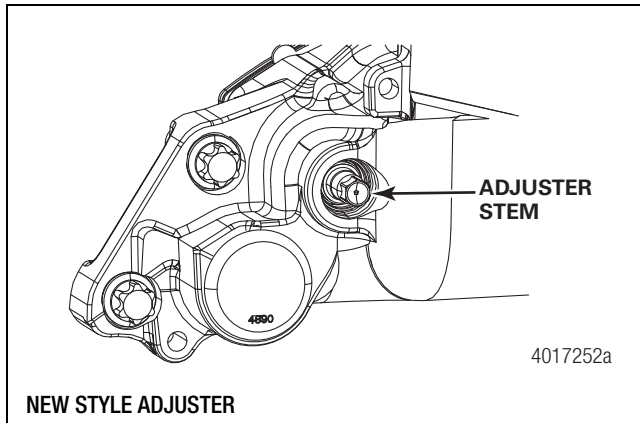
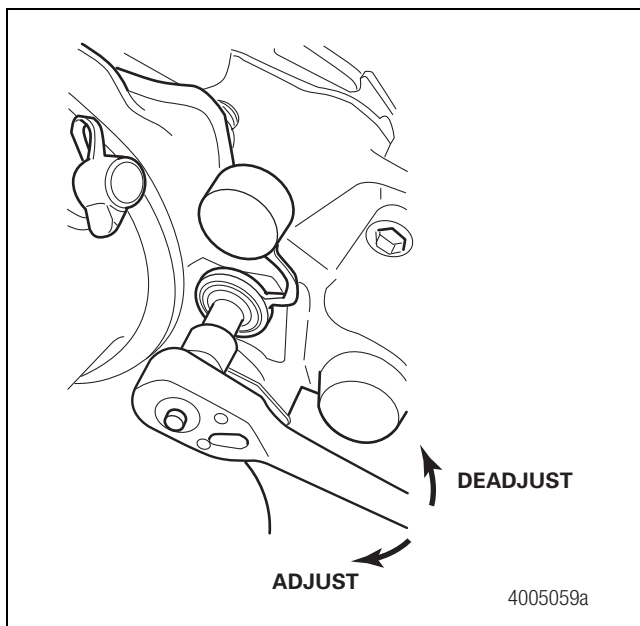

Figure 5.4
Figure 5.5
2. Use a 10 mm wrench to deadadjust the brake. Rotate the adjuster stem COUNTERCLOCKWISE until you feel the adjuster stem stop. Deadadjustment requires more force than adjustment. Do not exceed 30 lb-ft (40 N•m) in either direction. Figure 5.3, Figure 5.4 and Figure 5.5. **⚠**